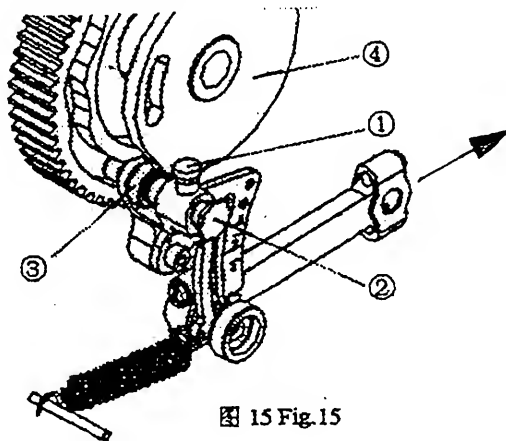

图 15 Fig.15
Open the hinged cover, you can see the shift cam unit (as shown in Fig15), which is designed for model 1375A3, and is used to shift crossover stitches and parallel stitches. The position which the illustration shows is suitable to crossover stitches. If you need parallel stitches, you can loose screw (1), pull out the handle (2), make the wheel (3) well touch with profile of the shift cam, and then tight the
screw (1). In order to pull or push the handle (2) easily, you should pull or push it by the left hand and nip the button clamp jaw holder by the right hand to pull toward (directed by the arrow as shown in fig15.).
打开大罩壳, 可见如图 15 所示一套凸轮切换装置, 它专为 1375A3 型设计, 用于十字线缝合和平行线缝合的切换, 图示位置为十字线缝合。若需平行线缝合, 可旋松螺钉(1), 拉出手柄(2), 使滚轮(3)与切换凸轮(4)表面贴合, 然后旋紧螺钉(1)即可。为使手柄(2)拉出或推入方便, 应左手拉或推手柄(2), 右手捏着钮夹体向前拉, 见图 15 中箭头方向。